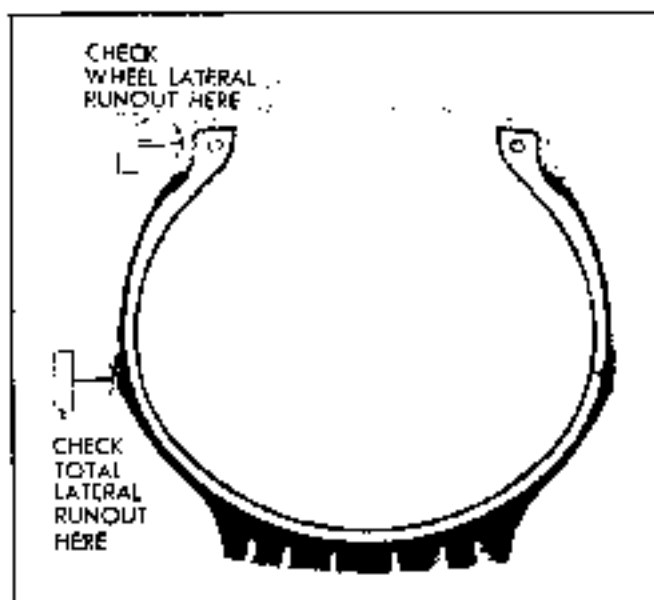

Fig. 10-3 Lateral Runout Inspection
4. Attach a dial indicator to a stationary stand similar to step 3 above. Slowly rotate wheel and check for total lateral run-out of wheel and tire. See Fig. 10-3. Maximum allowable total lateral run-out is 1/8". If total lateral run-out exceeds 1/8" then attach a dial indicator to the stationary object and check for lateral run-out of wheel. Lateral run-out of wheel should not exceed .045".